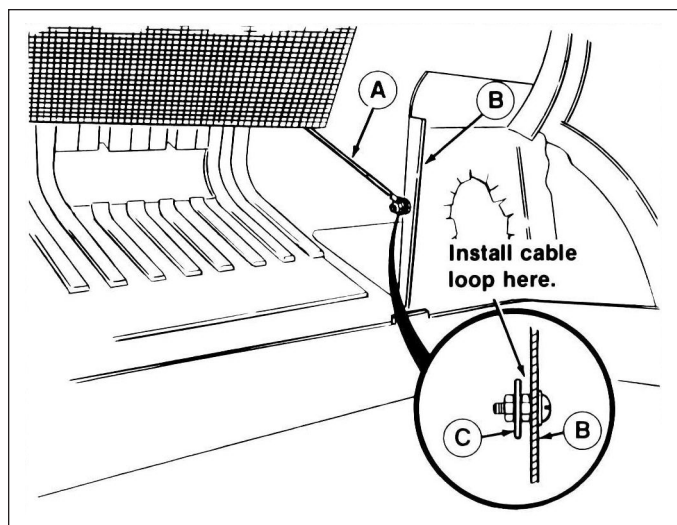

Figure 17.
5. Open cover and fasten cable (A, figure 17) to tube support (B) to prevent cover from going over center when opened. Loop end of cable fits over washer (C).